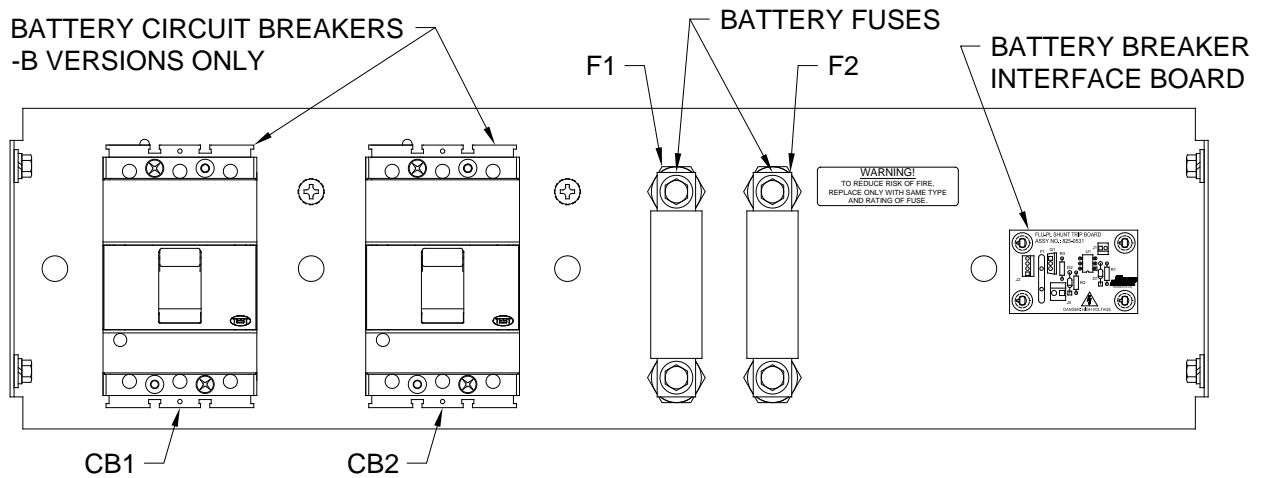
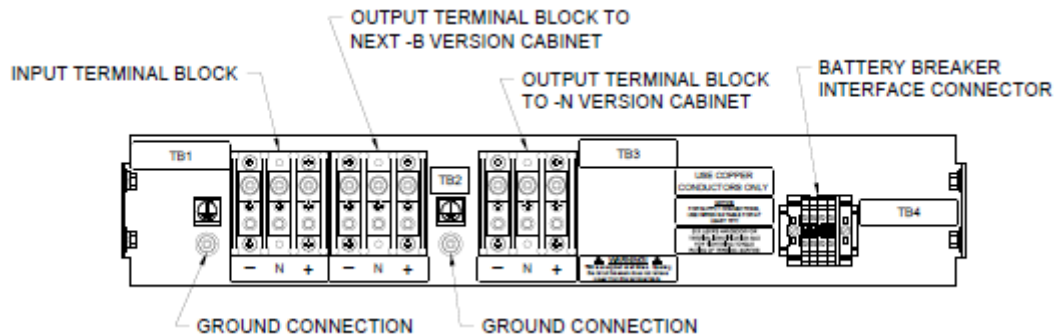

Figure 8 - Circuit Breaker Panel
Figure 9 - Connection Panel
- Before working within the UPS cabinet, verify that the UPS has no power applied. Before touching the Extended Run Time Battery connector in the UPS, verify that all internal battery strings are disconnected (that is, verify that the blue and white “powerpole” connectors are NOT mated). Refer to the UPS manual. Repeat procedures 3 and 4 to the UPS Extended Run Time Battery connector located in the lower left side of the UPS. We recommend that the wires be marked as to which is positive (+) and negative (-) to ensure that the wires are not accidentally crossed. See **Figure 8** and **Figure 9**.
Figure 9 shows the location of the Battery Breaker Interface terminal block on the battery cabinet.